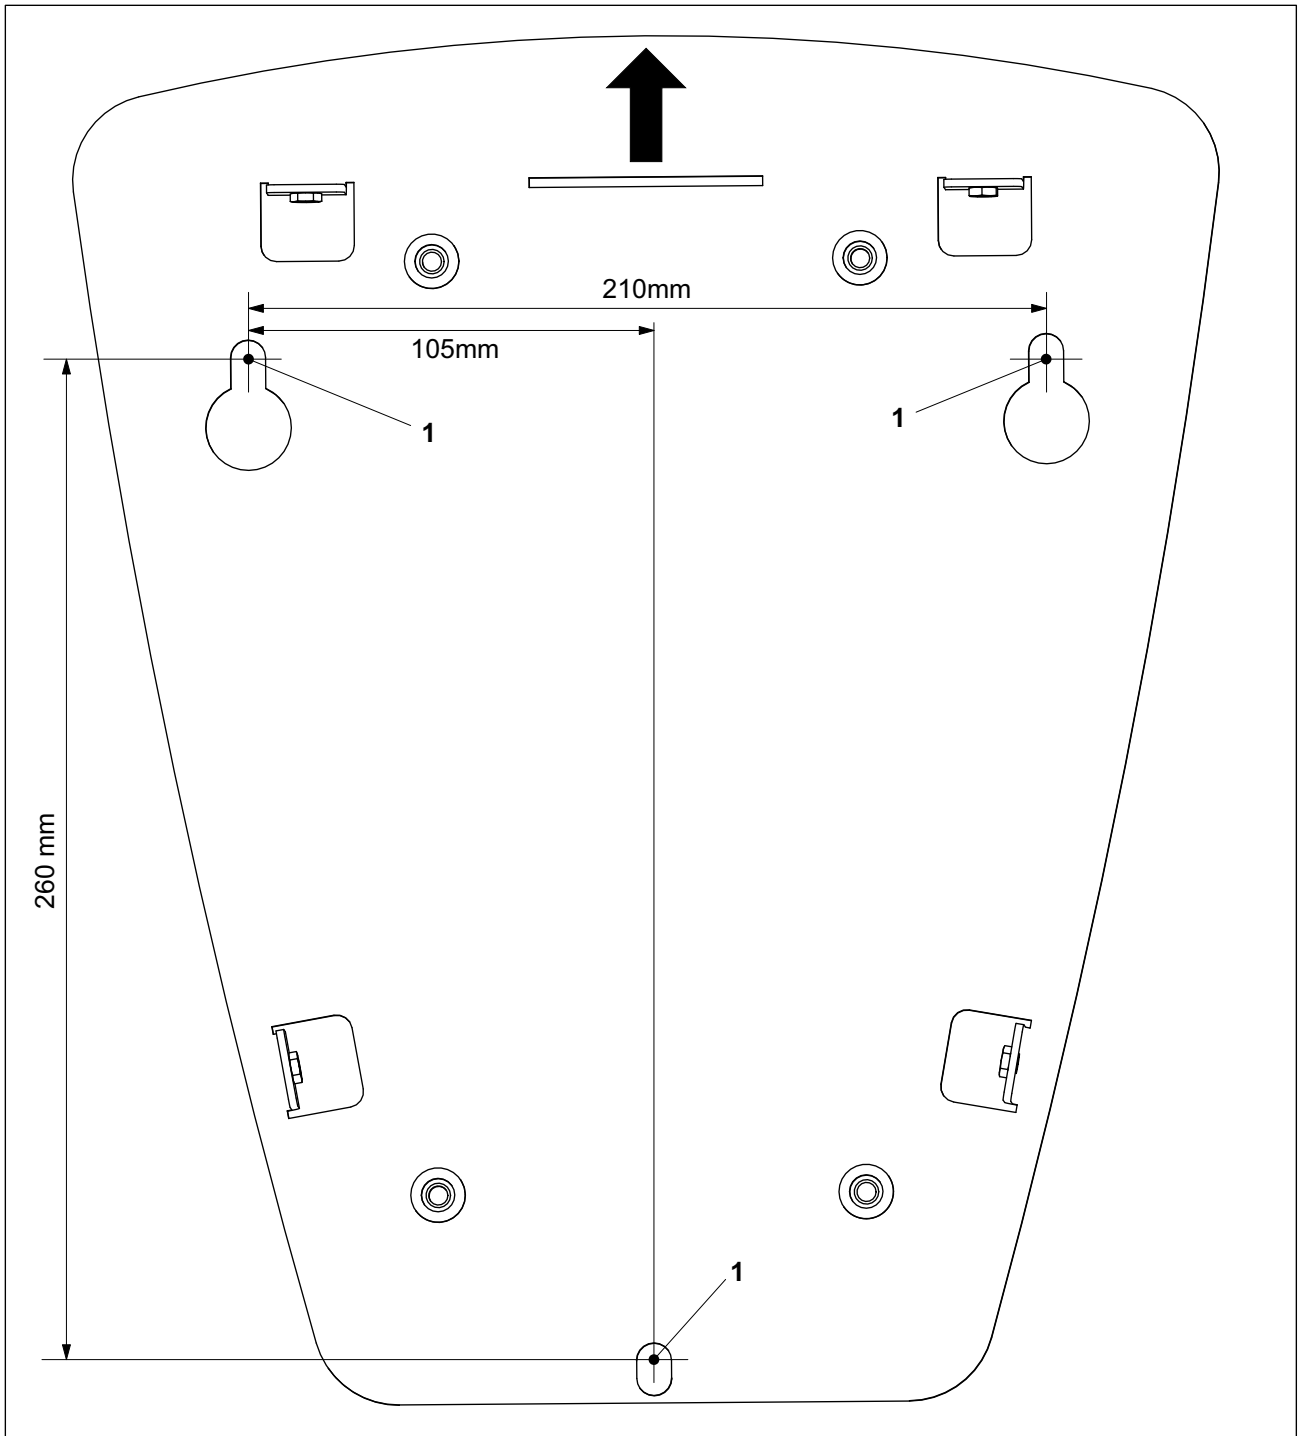

Fig. 1 Drilling plan for the Wallbox Home Eco
1. Mark the three mounting holes (Fig. 1/1) as shown on the drilling plan.